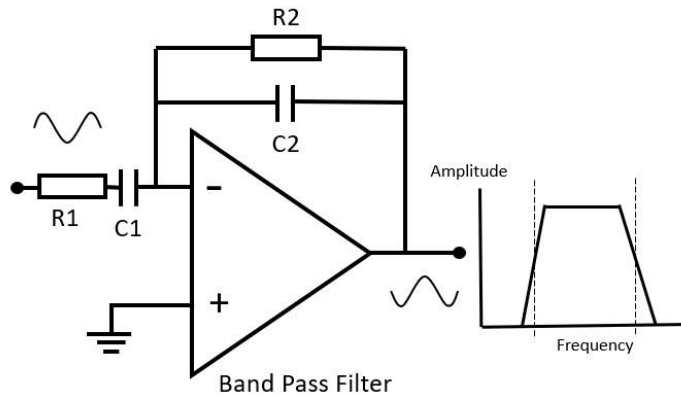

Figure 11: Band Pass Filter.
10. The Band pass filter is a unity gain amplifier.  $R_1$  and  $C_1$  determine the high pass cut off while  $R_2$  and  $C_2$  determine the low pass cut off (Figure 11).